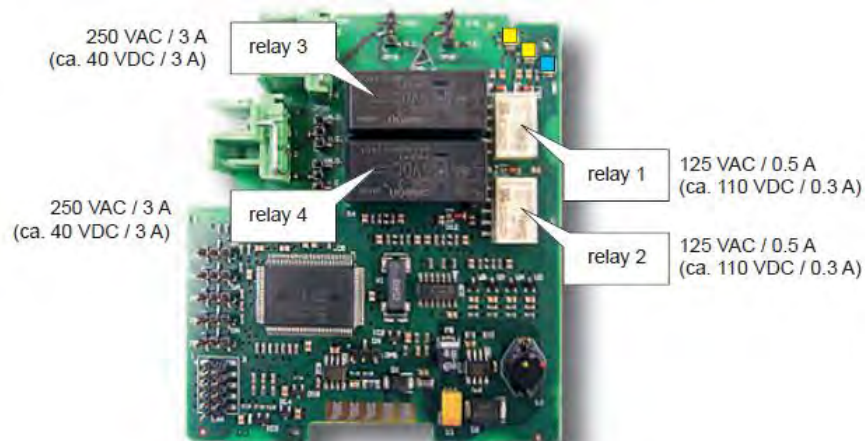

FIGURE 7-23 Locations and ratings of the Electro Mechanical Relays on the FII-DO board
- FII-DO (1)
- FII-DO (2)
- For this special configuration, **only relay 3 and relay 4 are used.** For their locations, see FIGURE 7-23.